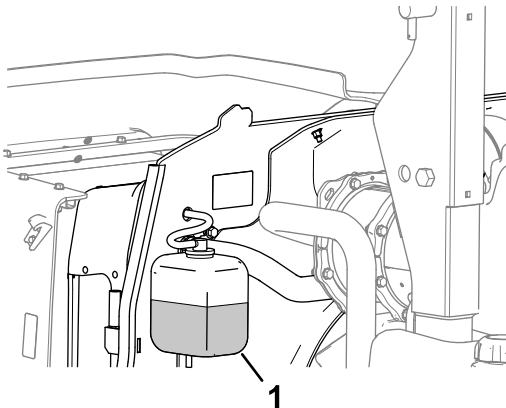

Figure 64
1. Check the level of coolant in the expansion tank (Figure 64).